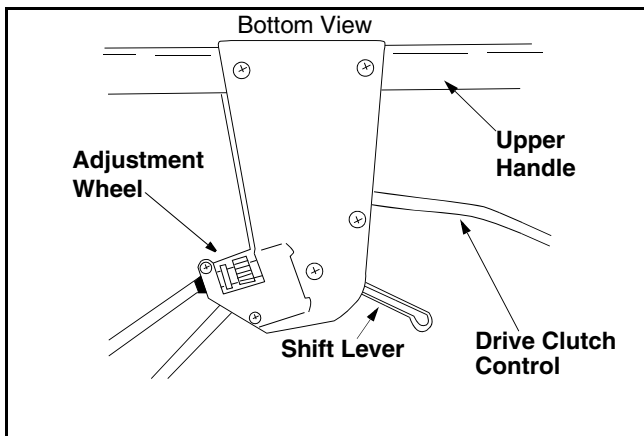

Figure 12
- To resolve the above problems, rotate the adjustment wheel with your fingers: clockwise to tighten the cable and counter-clockwise to loosen the cable. See Figure 12.
- Start engine and place shift lever in the sixth speed position. Refer to Figure 12.